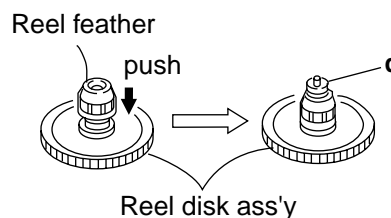

Fig.7
■ Removing the reel disk ass'y (see Fig.7)